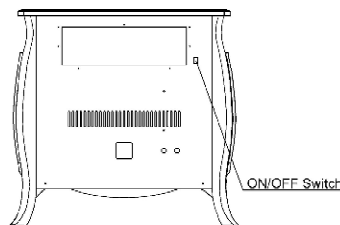

Figure 12 - On/Off Switch
Note: To operate your heater the ON/OFF switch on back of heater must be in the ON position. The RED light on the front of heater indicates there is electrical power to your heater when the ON/OFF switch is in the ON position. The GREEN light on the front of heater indicates the pilot light is ON. (See Figure 12)
- Set Switch on OFF position or unplug the electric power to the heater. (See Figure 12)